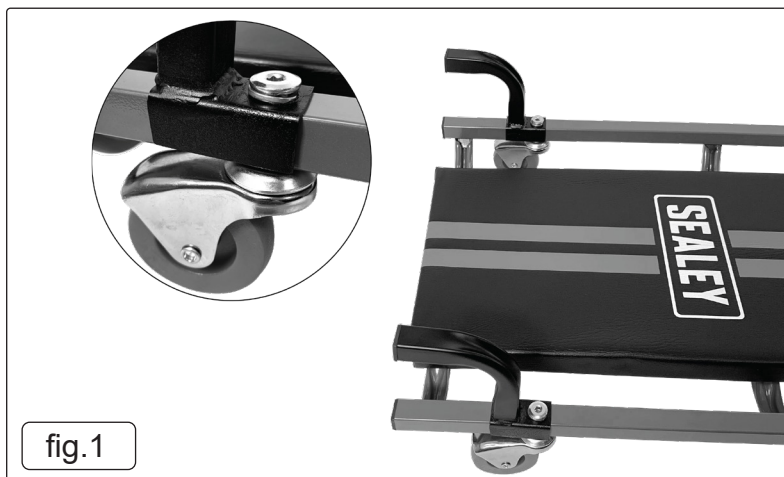

fig.1
- 4.3. Locate the mounting holes on the creeper's frame. See fig.1.
- 4.4. Attach one castor wheel to the bottom of the creeper's frame, and one stand handle to the top each side. See fig.1.